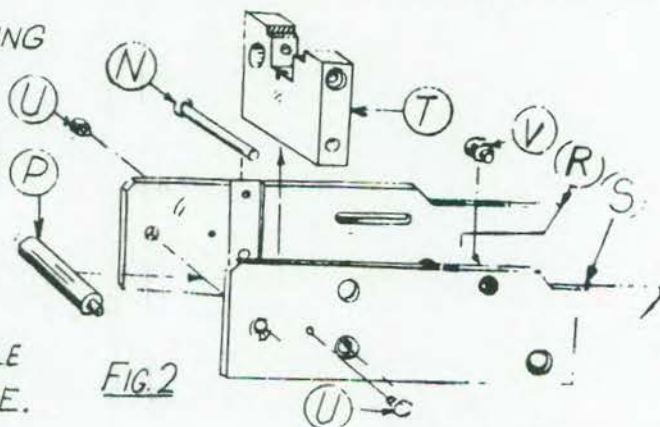

FIG. 2
15 PUSH OUT PIN (A) AND LIFT ACCELERATOR (B) FROM FRAME (G). DRIVE OUT PIN (C) WITH A SMALL PUNCH, RELEASING TRIGGER (E) AND SPRING (D). CAUTION SHOULD BE USED TO KEEP SPRING (M) FROM FLYING OUT WHEN REMOVING. PRY PIN (H) OF PLUNGER (F) FROM SLOT (K) IN FRAME (G), RELEASING SPRING AND PLUNGER. THE LOCK FRAME CONSISTS OF THREE MAIN PARTS: RIGHT SIDE (S), LEFT SIDE (R) AND SEPARATOR (T), ALL RIVETED TOGETHER, FIG. 2. THEY CAN BE TAKEN APART BY REMOVING RIVET (N) AND SPACER (P). REASSEMBLE WITH NEW RIVET (N) AND SPACER (P). GUIDES (U) AND STOP (V) MAY BE DRIVEN OUT IF NECESSARY. NEW ONES ARE INSERTED AND RIVETED OVER. GUIDES (U) ARE ROUND WHEN NEW AND MUST BE MILLED TO PROPER SHAPE AFTER ASSEMBLY.